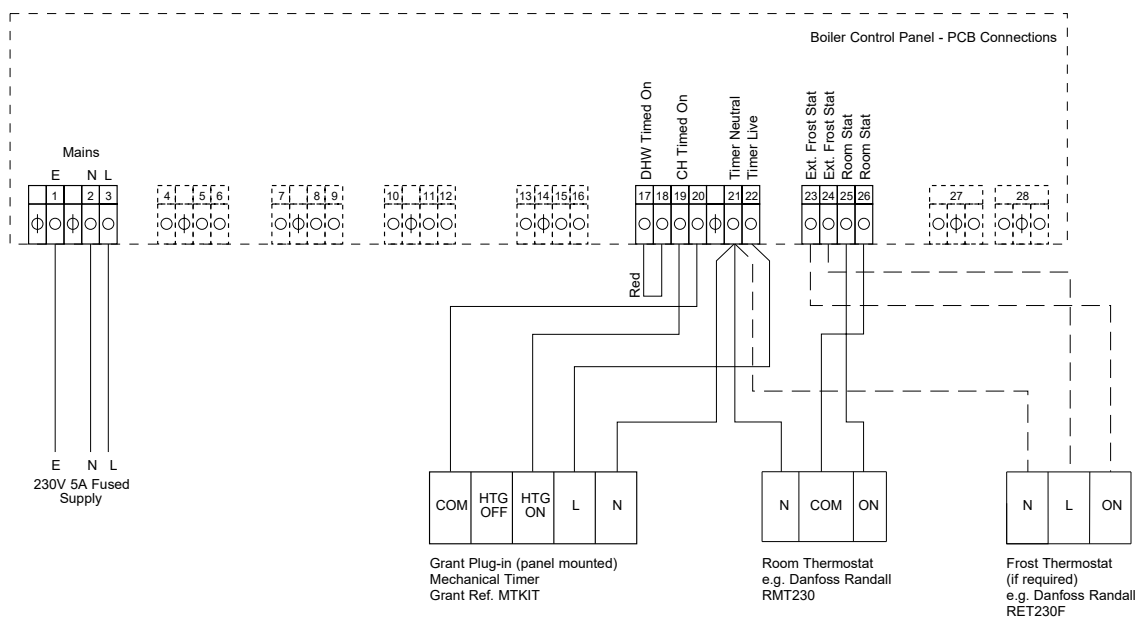

Figure 8-3: Connections for an MTKIT and room thermostat
2. Remove the Orange room thermostat link wire from terminals 25 & 26 on the connection block and connect the wires from the room thermostat. Refer to Figure 8-3 for further details.